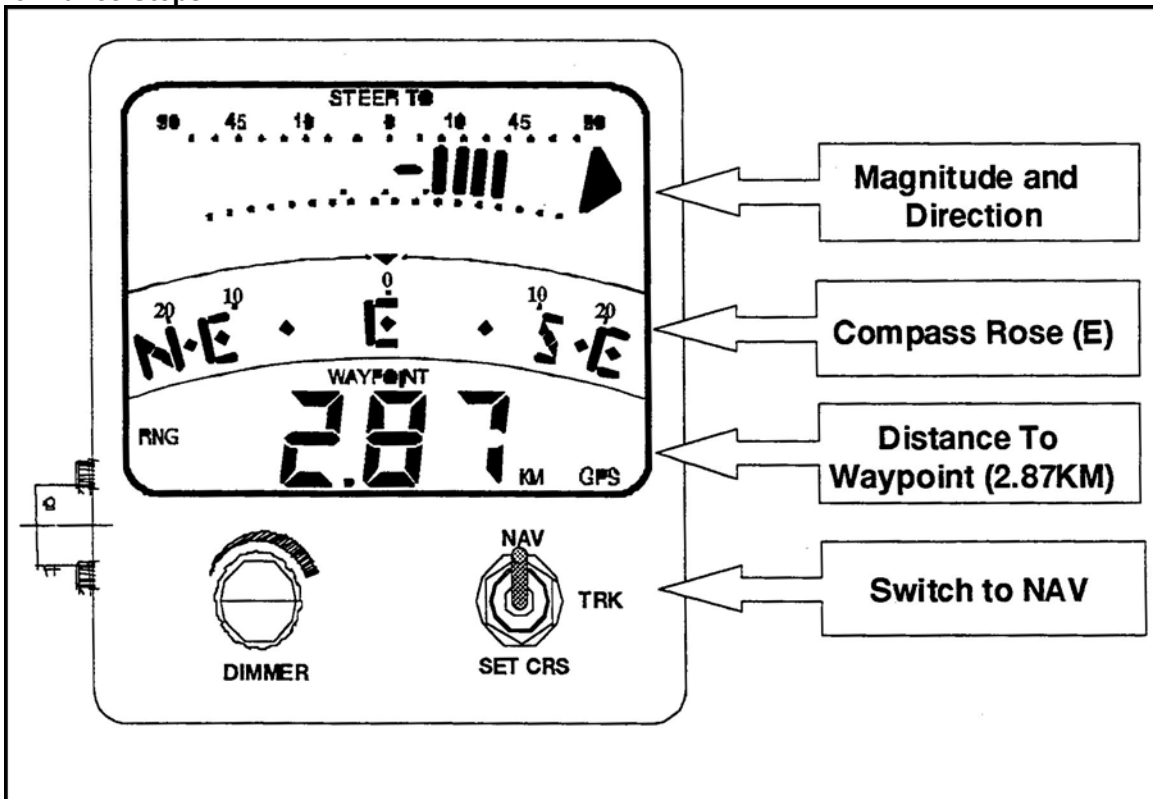

Figure 2. DCD navigation mode.
- a. Select the navigation mode (NAV) on the DCD (Figure 2).